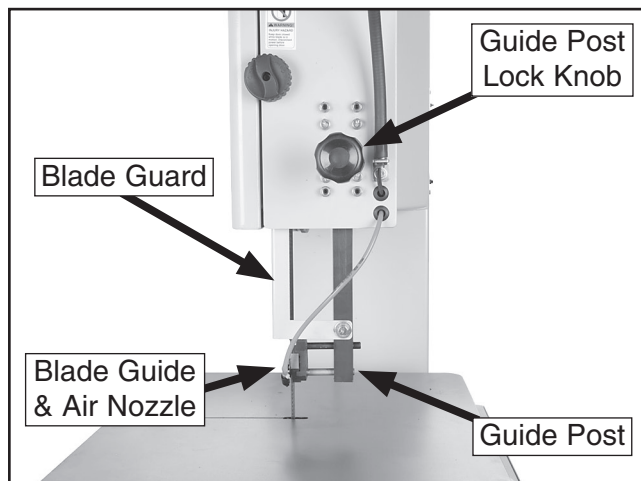

Figure 24. Model G8144Z/G8145Z guide post assembly.
2. **Model G8144Z/G8145Z (Figure 24):**